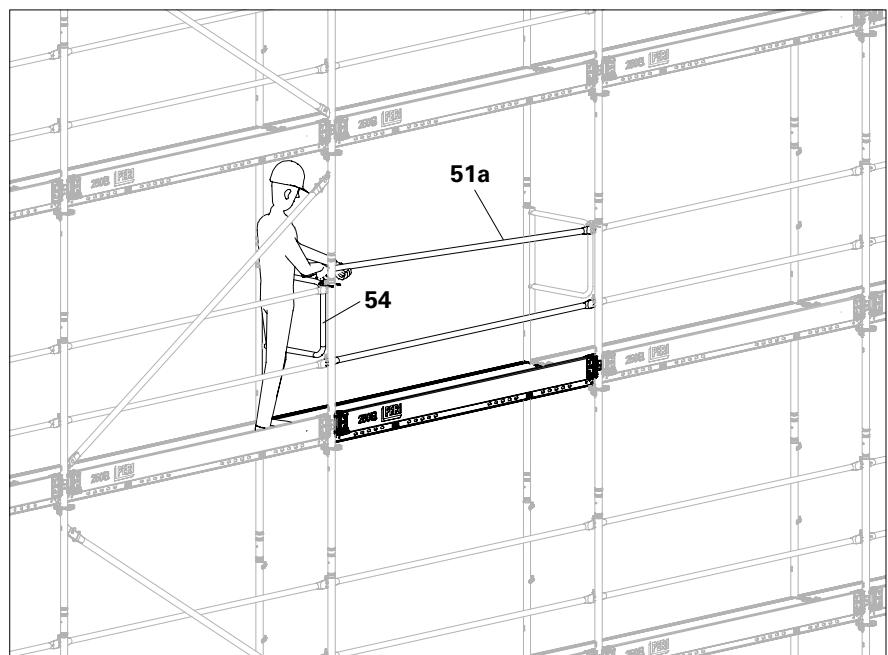

Fig. B9.01c
8. From a safe position, disconnect Guardrail Post EPG (**51a**) and the intermediate guardrail from the guardrail hooks and remove the toe board. (Fig. B9.01c)